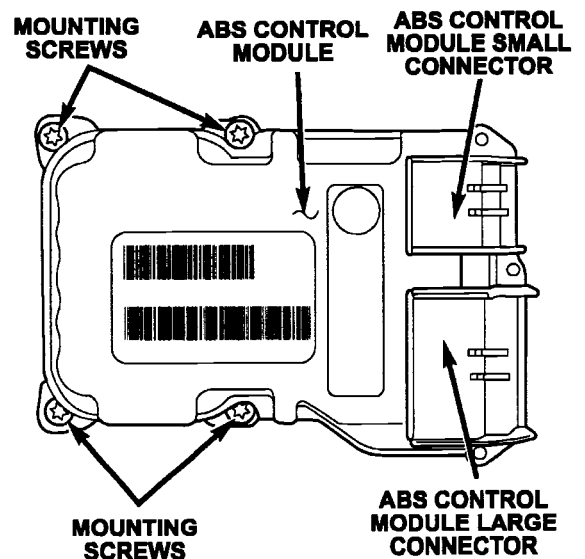

Figure 13
1. Disconnect the small ABS control module wiring connector from the ABS control module (Figure 13).
2. Remove the four mounting screws on the ABS control module (Figure 13).